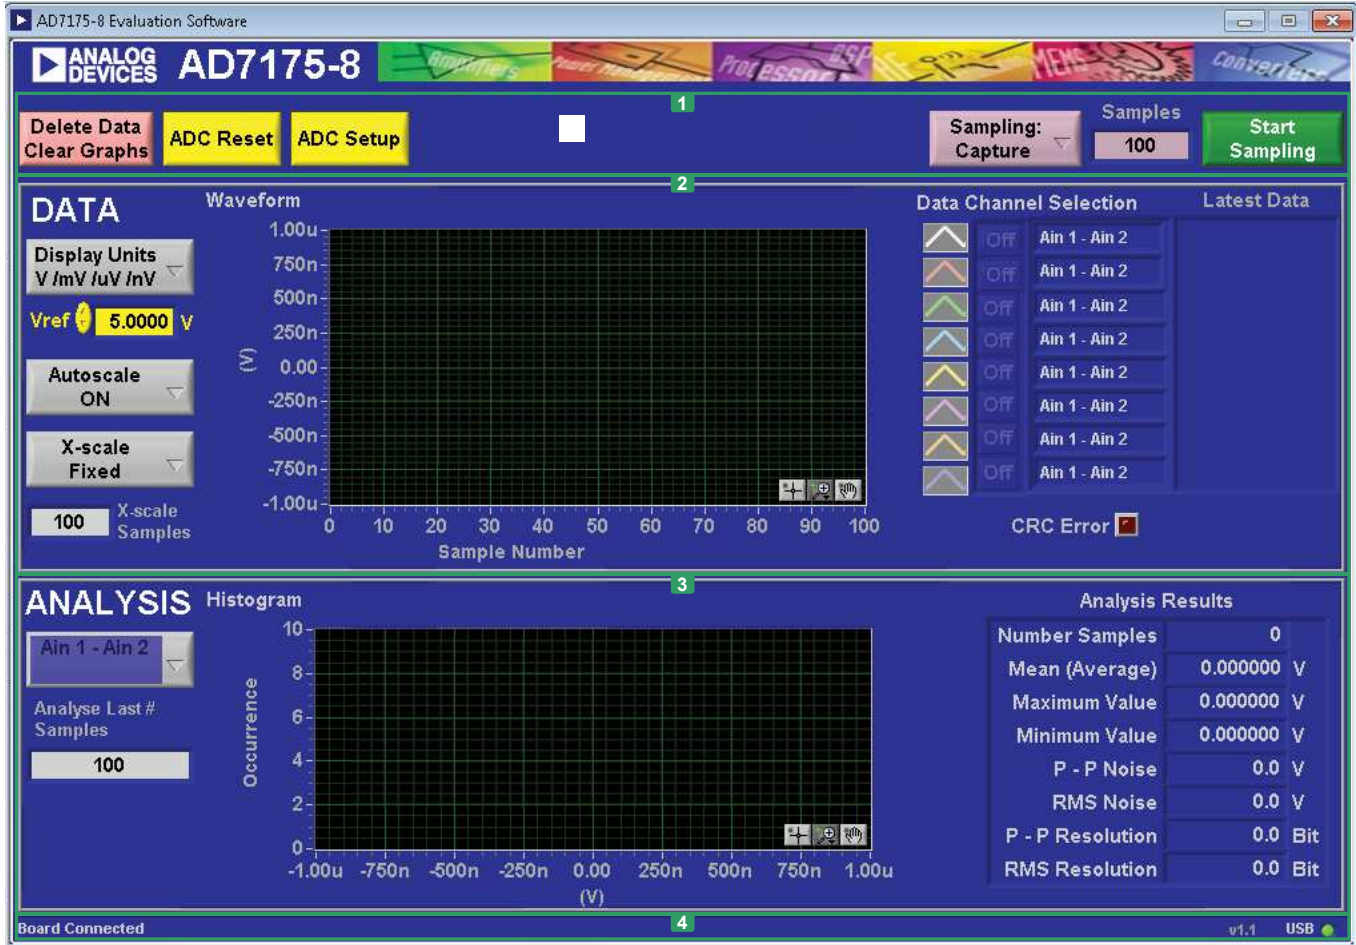

Figure 7. Main Window of the AD7175-8 Evaluation Software
1. From the **Start** menu, click **Programs**, **Analog Devices**, and then **EVAL-AD7175-8SDZ**. The main window of the software then displays (see Figure 7).
The main window of the software displays the significant control buttons and analysis indicators of the AD7175-8 evaluation software (see Figure 7). This window is divided into four sections. The green numbers shown in Figure 7 (Label 1 through Label 4) correspond to the following components of the main window:
Sampling (set to **Capture** in Figure 7) enacts the sampling mode used by the software. This is unrelated to the ADC mode. The user can capture a defined sample set or continuously gather batches of samples. In both cases, the number of samples set in the **Samples** numeric input dictates the number of samples.
To exit the software, click the close button at the top, right corner of the main window (see Figure 7).